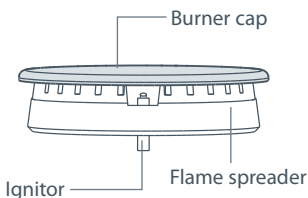

Fig.17 Burner parts
- positioned correctly, as shown in Figs. 17 and 18.